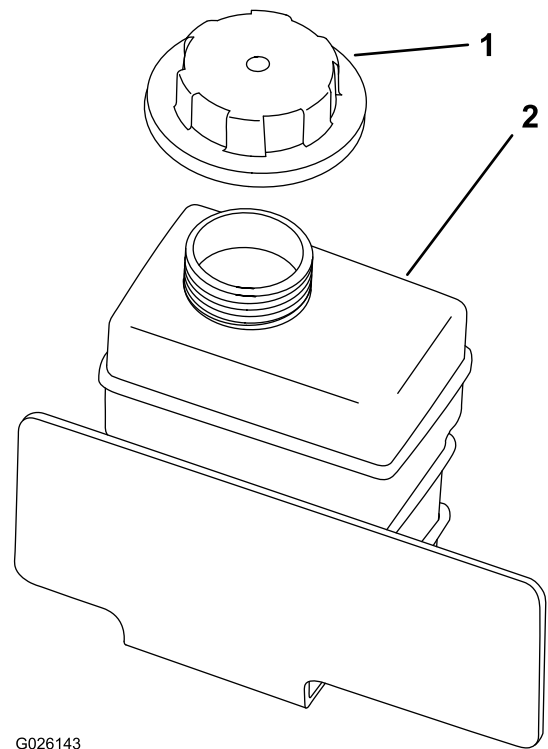

Figure 71
4. Remove the reserve-tank cap (Figure 71).
8. Slowly fill the coolant-reserve tank until level reaches the bottom of the filler neck (Figure 71).
9. Install the reserve-tank cap (Figure 71).